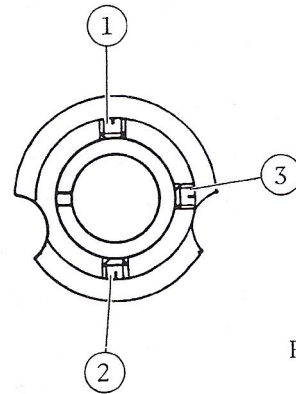

Fig. 72
Adjustment is made by ① , ② and ③ screws as shown in Fig. 72.
- a. When tightening the screw ① , mesh of the gear teeth will be shallow.
- b. When tightening the screw ② , mesh will be deep.
- c. When tightening screw ③ , play will be reduced.